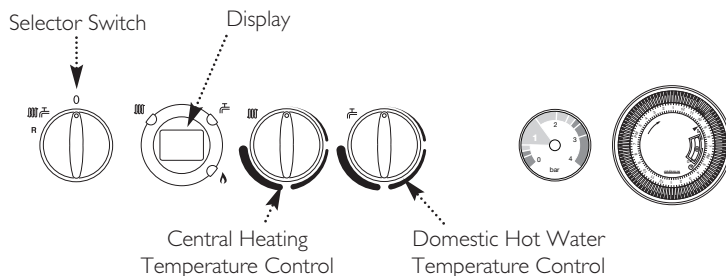

Fig. 39
6. With the boiler operating in the maximum rate condition check that the operational (working) gas pressure at the inlet gas pressure test point (Fig. 39) is in accordance with B.S. 6798 & B.S. 6891.